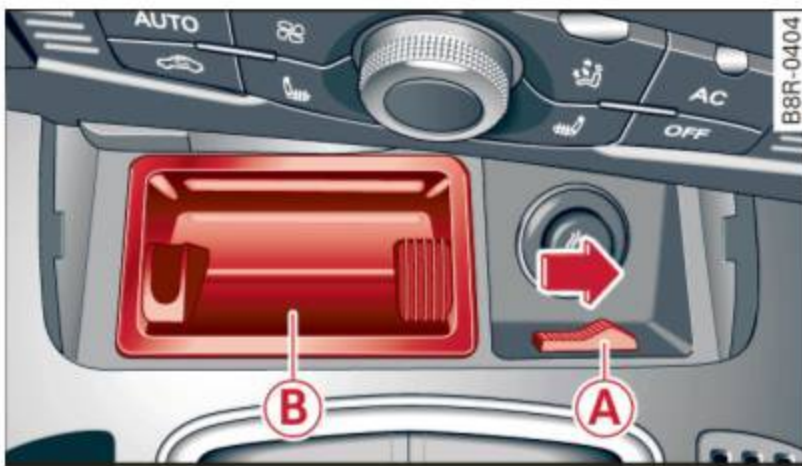

Fig. 88 Front center console: Removing the ashtray insert
- ▶ To access the emergency release mechanism, remove the ashtray insert (B) using the release switch (A) ⇒ *fig. 88*.